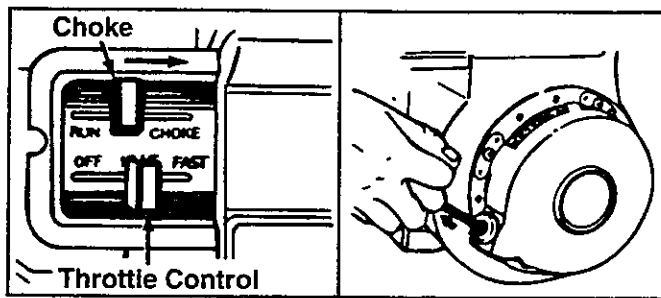

FIGURE 5
3. Place the throttle control lever in FAST position. See figure 5.
5. Grasp starter handle (see figure 5) and pull rope out slowly until engine reaches start of compression cycle (rope will pull slightly harder at this point). Let the rope rewind slowly.
1. Move throttle control lever to STOP position. See figure 5.